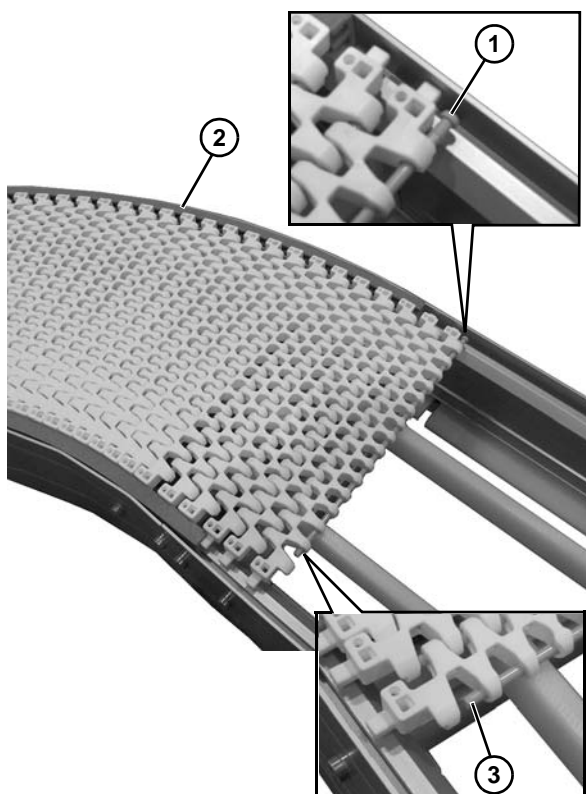

Figure 15
2. Orient the belt direction such that the pin heads (Figure 15, item 1) are on the outside of the belt radius (Figure 15, item 2). The straight portion on the pin (Figure 15, item 3) will be on the inside radius.